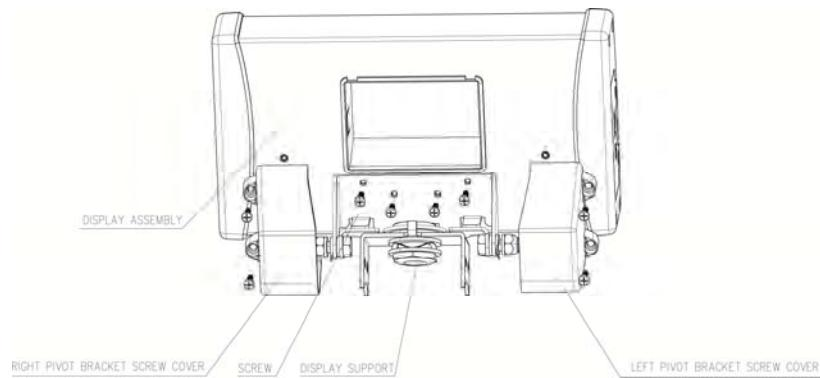

Figure 6
13. Rotate the display support so that it is perpendicular to the handrail (see Figure 6). Position the display assembly close to the display support. Plug the load cell cable connector into the load cell port on the rear of the display assembly. The port is labeled “LOAD CELL” (see Figure 7).